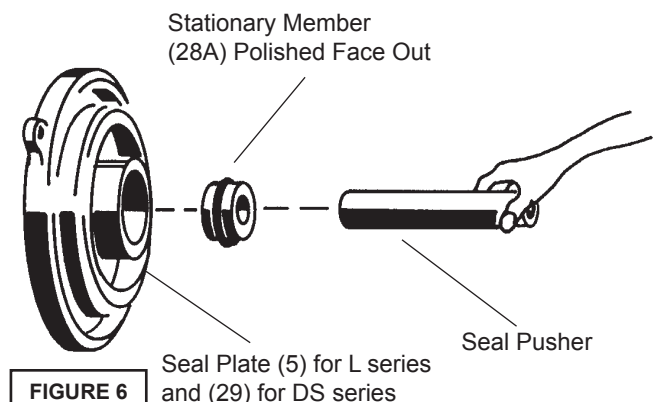
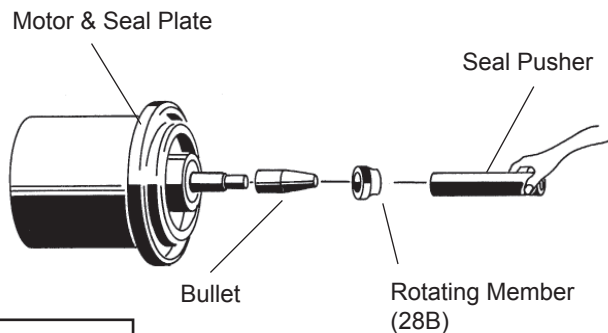

FIGURE 6
FIGURE 7
Clean and oil seal cavities in seal plate (5). Lightly oil (**DO NOT use grease**) outer surface of stationary member (28a). Press stationary member (28a) firmly into inner seal plate (5), using a seal pusher. Nothing but the seal pusher is to come in contact with seal face (see Figure 6).
Make sure the stationary member is in straight. Slide a bullet over motor shaft. Lightly oil (**DO NOT use grease**) shaft, bullet and inner surface of bellows on rotating member (28b) see Figure 7. With lapped surface of rotating member (28b) facing inward toward stationary member, slide rotating member over bullet and onto shaft, using seal pusher, until lapped faces of (28a) and (28b) are together (see Figure 6).